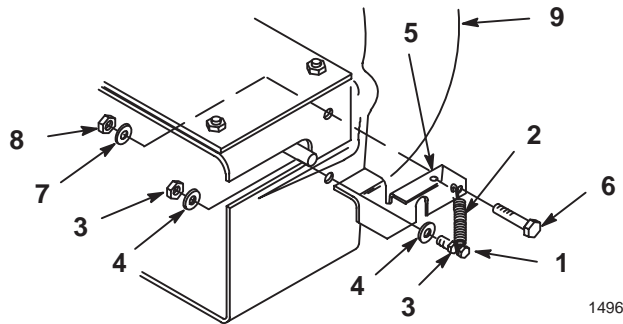

Figure 5
10. Install one end of tension spring and nut onto (#10 x 3/4") screw. Thread nut on within 1/8" from end of screw so spring rotates freely (Fig. 5).
11. Slide washer onto screw and insert through blower housing. Secure with second washer and nut (Fig. 5).
12. Select appropriate latch (42" short, 48" long) Hook spring into latch and mount to blower housing with (1 1/4" x 3/4") bolt, washer and lock nut (Fig. 5). Check that latch pivots freely.